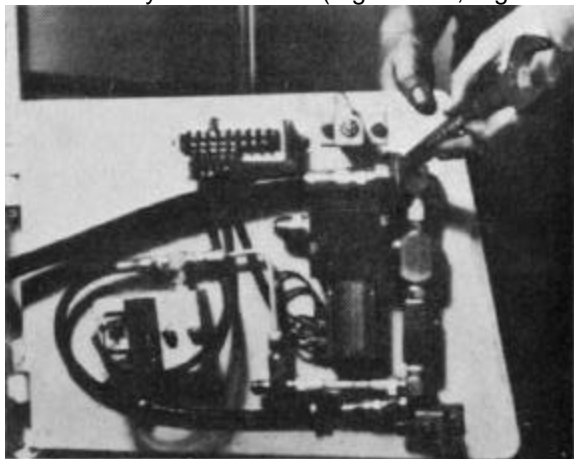
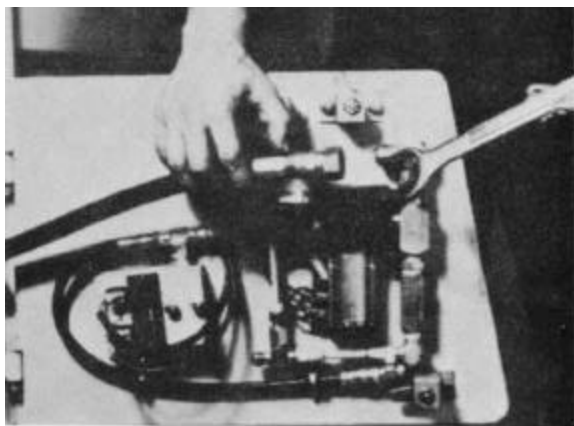

Figure 5-126
Figure 5-127
2. Disconnect hydraulic hoses (Fig. 5-126, Fig. 5-127).